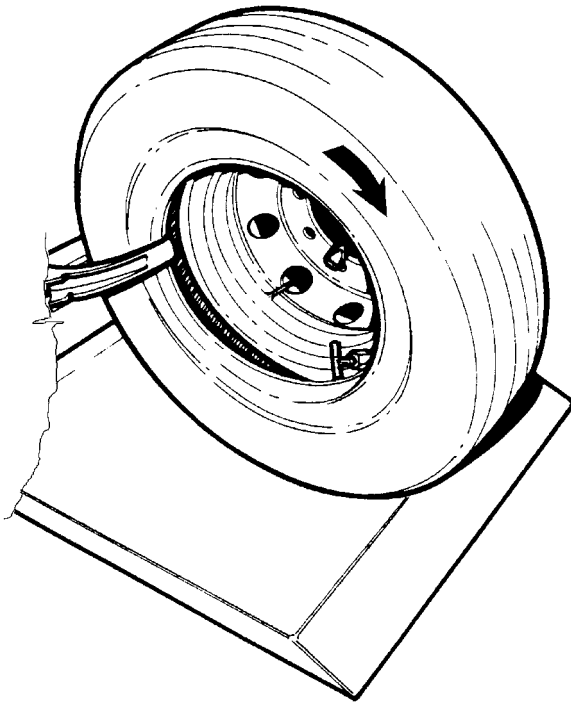

Fig.33
3. Rotate the chuck clockwise. Normally less than 1/4 of a revolution is sufficient to mount the first bead (fig.33).